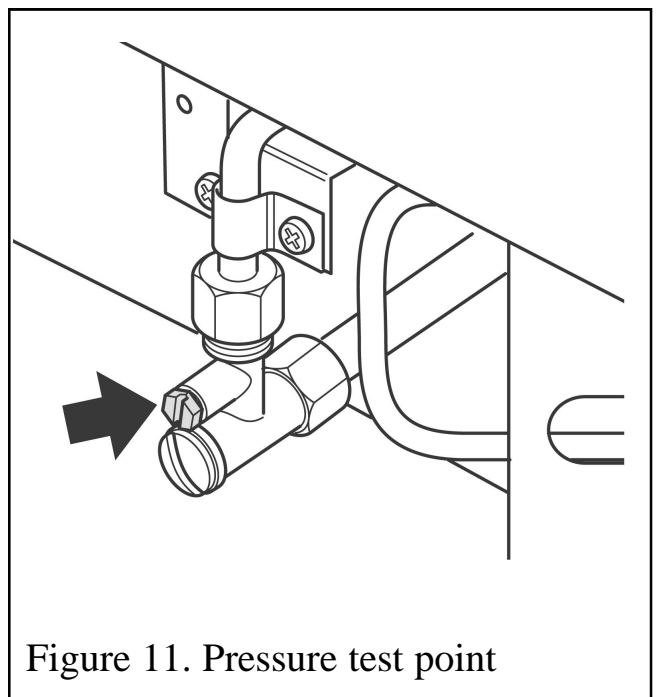

Figure 11. Pressure test point
1. Check the inlet pressure by fitting a pressure gauge at the test point. The test point is on the inlet ‘T’ connector (See figure 11). Check the pressure with the appliance alight and set at maximum output.